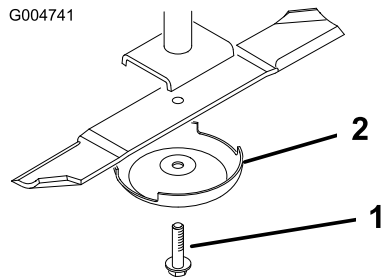

Figure 96
2. Grasp the end of the blade using a rag or thickly padded glove. Remove the blade bolt, anti-scalp cup, and blade from the spindle shaft (Figure 96).